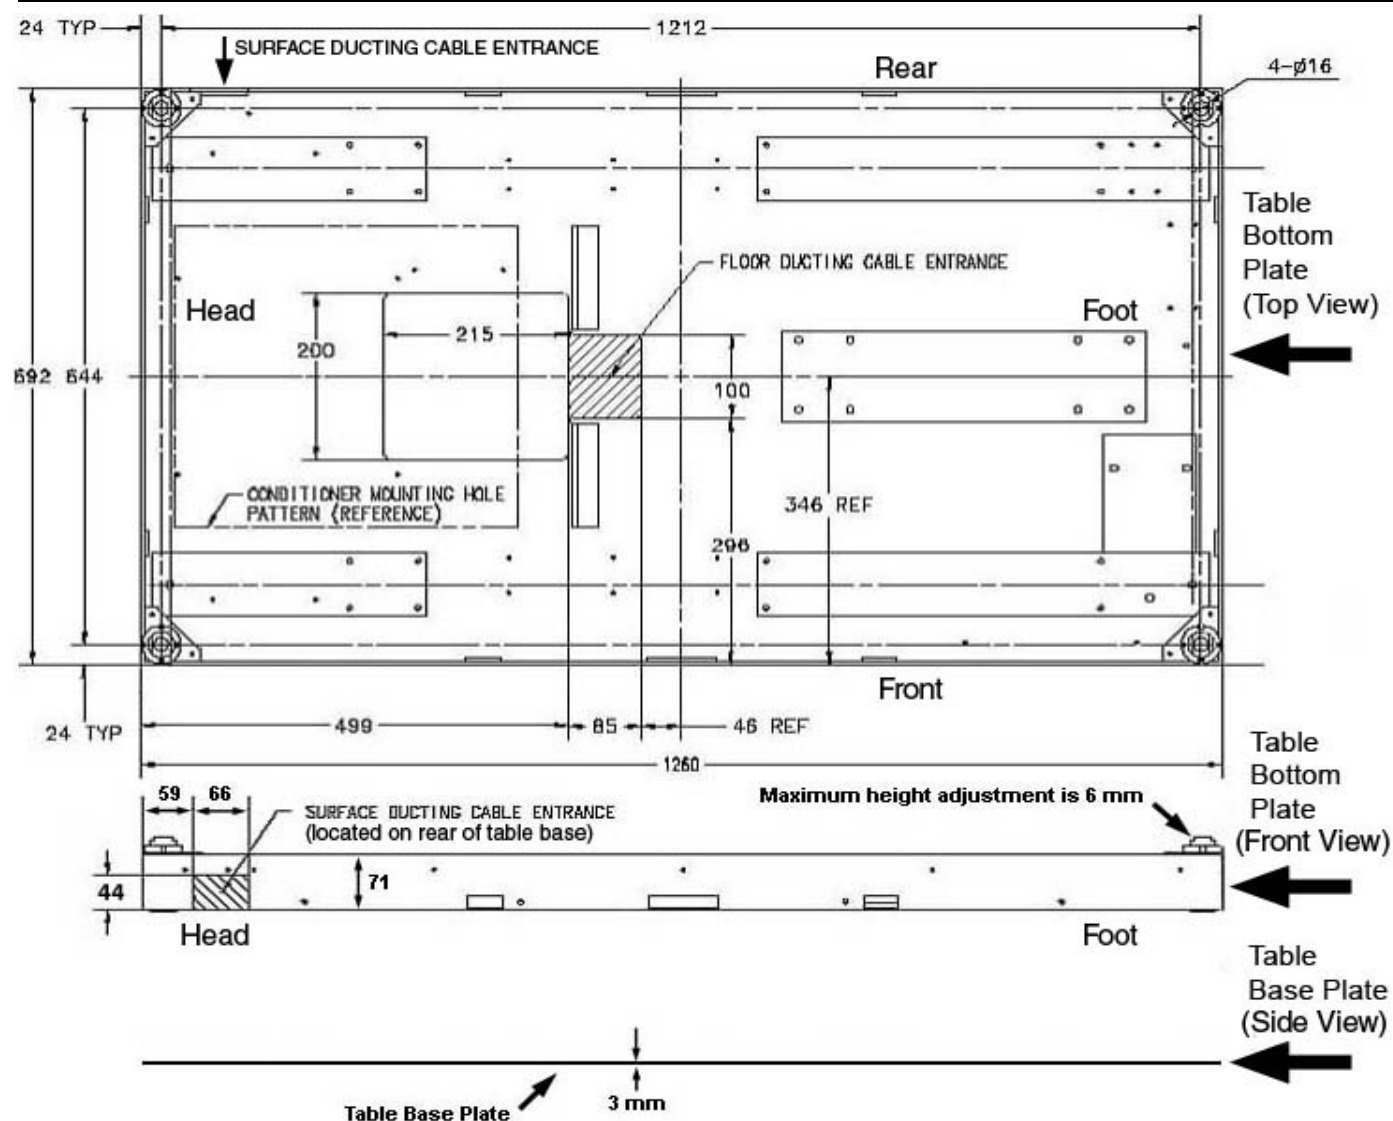

Figure 5-6 Definium 8000 Table Bottom Plate
- Table (TBL) - Figure 5-5 and Figure 5-6.